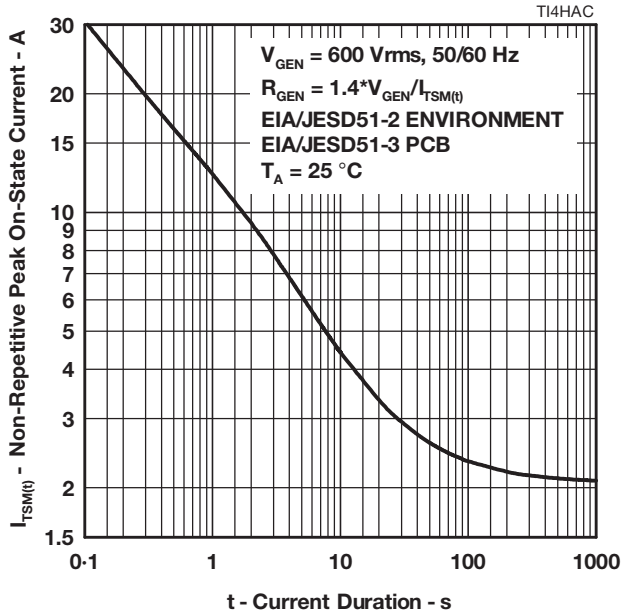

Figure 10.
4. EIA/JESD51-2 environment and EIA/JESD51-3 PCB with standard footprint dimensions connected with 5 A rated printed wiring track widths. See Figure 10 for the current ratings at other durations. Derate current values at $-0.61\text{ }^{\circ}\text{C}$ for ambient temperatures above $25\text{ }^{\circ}\text{C}$.